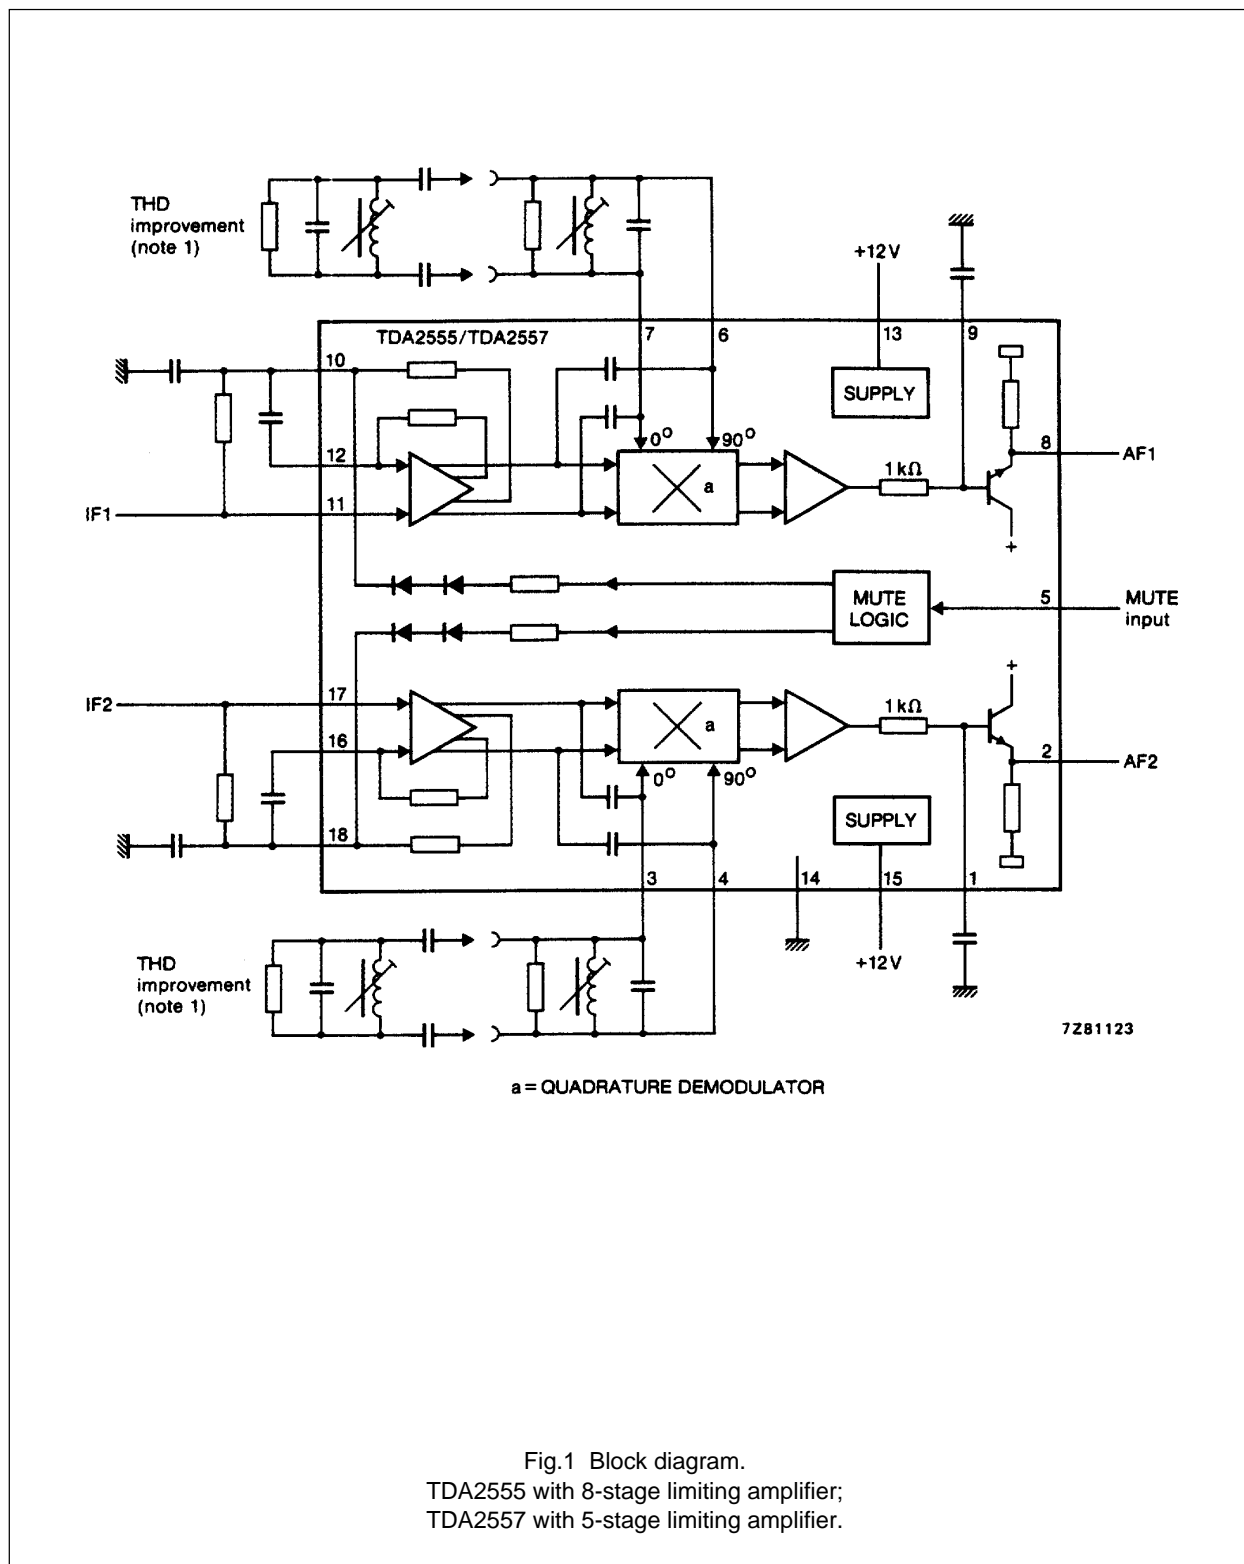
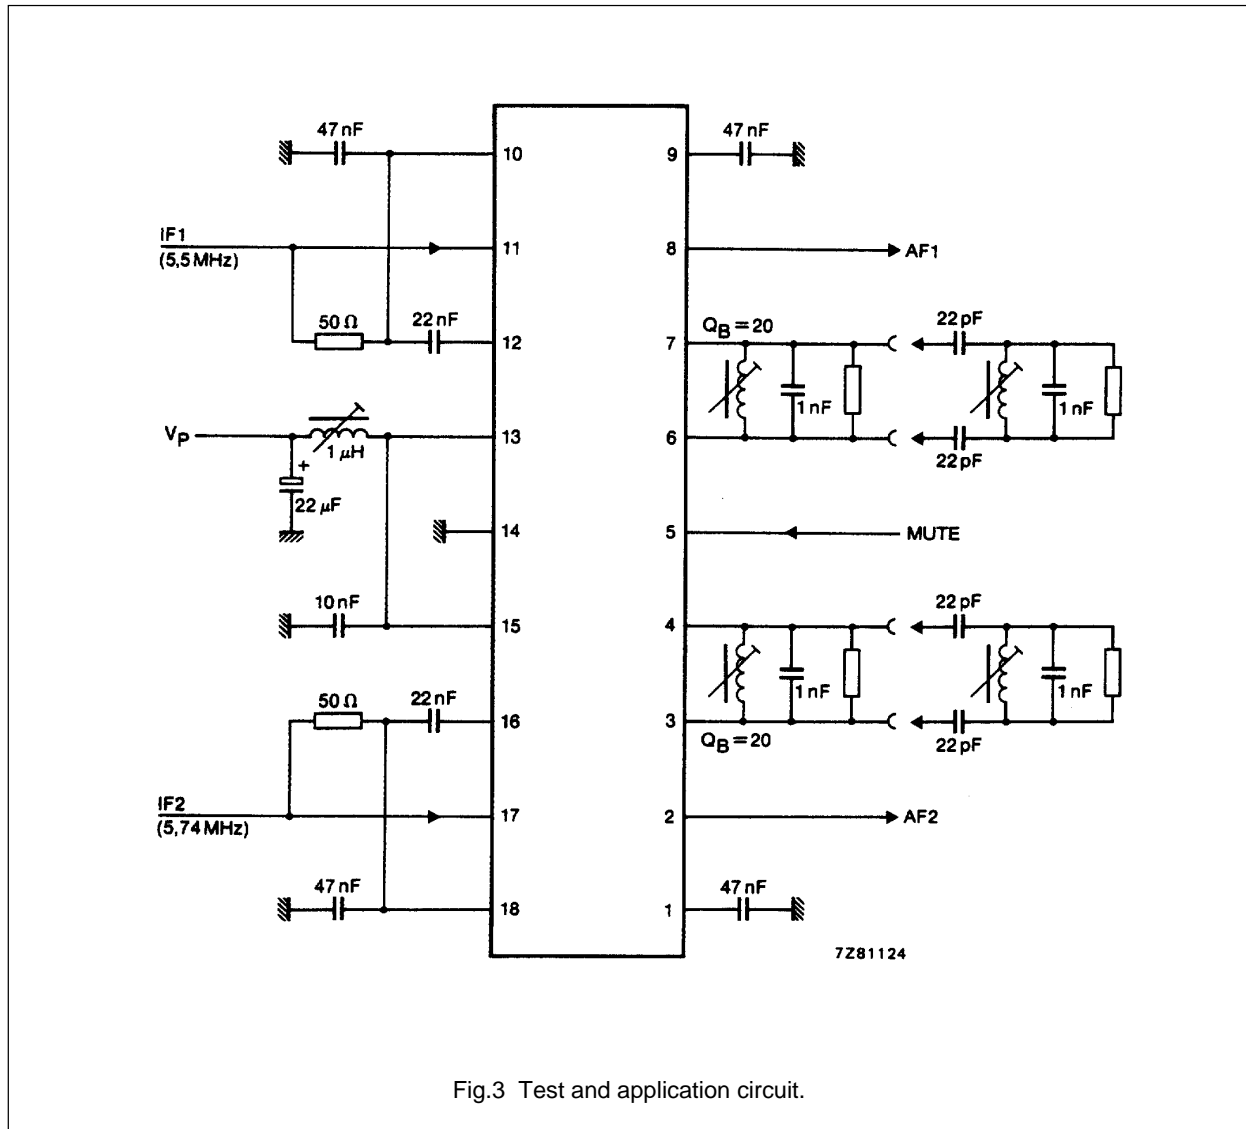

Fig.1 Block diagram.
Fig.3 Test and application circuit.
see test circuit Fig.3, voltages with respect to ground (pin 14), unless otherwise specified.
- THD < 0,1% requires a double tuned demodulator circuit ($Q_L = 20$). With a single tuned circuit a THD of < 0,5% is possible (see Fig.1 and Fig.3).